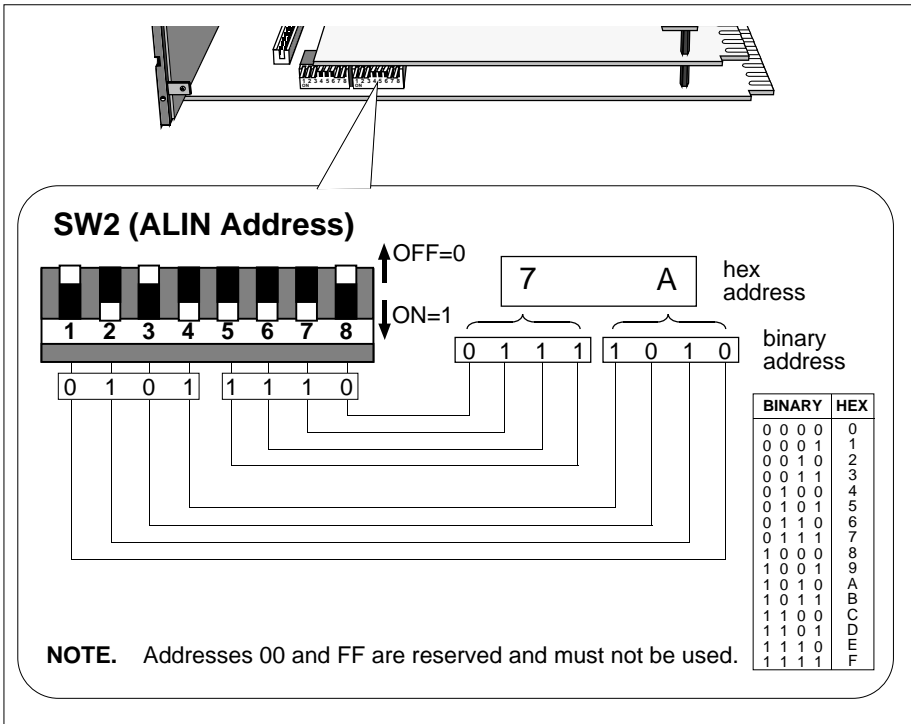

Figure 2-13 SW2 — ALIN address setup (example)
Figure 2-13 shows the ALIN address DIL switchbank 2, and an example setup (7A hex).
This bank of switches is used to set up the address of the T640 on the ALIN. Figure 2-13 shows how to set them up and read them, using the hexadecimal address 7A as an example. Note that switch 1 is the least significant bit, and switch 8 the most significant, i.e. they are in 'reverse order'. **Note also that addresses 00 and FF must not be used.**
- 1 Withdraw the T640 from its sleeve and note the ALIN address (hex) set up on DIL switchbank SW2, on the motherboard. (Refer to Chapter 2 for details on how to carry out these operations, and the precautions to be taken. How to read SW2 is explained in Figure 2-13 in the *Hardware configuration* section.)